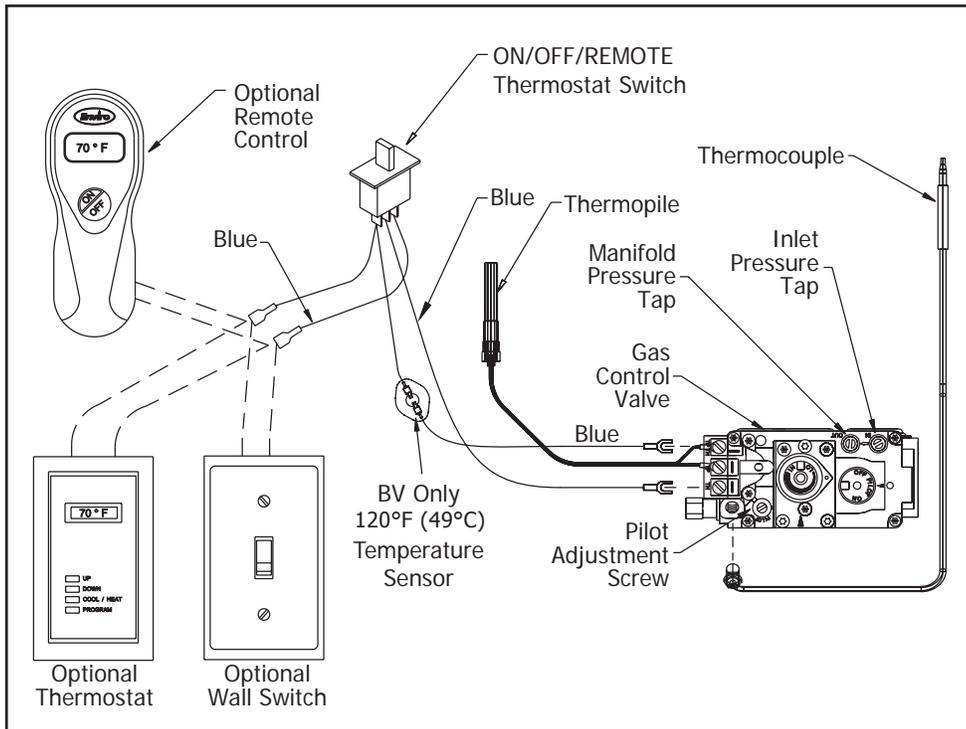

Figure 32: Accessory Wiring
The Q2 comes from the manufacture with an on/off switch mounted to the control panel. If you would like to install a wall mounted switch or thermostat then use the diagram to assist you in wiring the accessory into the unit. Disconnect the connection behind the switch in the control panel as tap into the (2) terminals as shown in figure 32